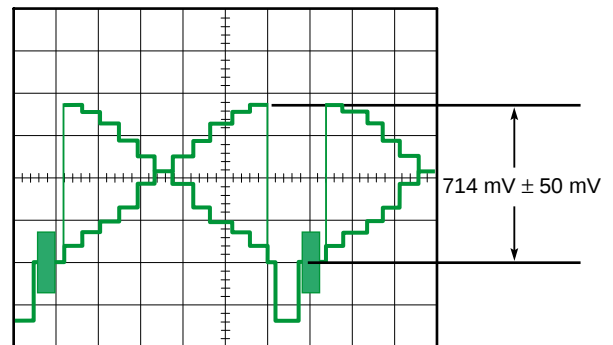

Fig. 4-5
- Adjust data with the **ARROW** keys so that the Video signal level becomes 714 mV $\pm$ 50 mV as shown in Fig. 4-5.